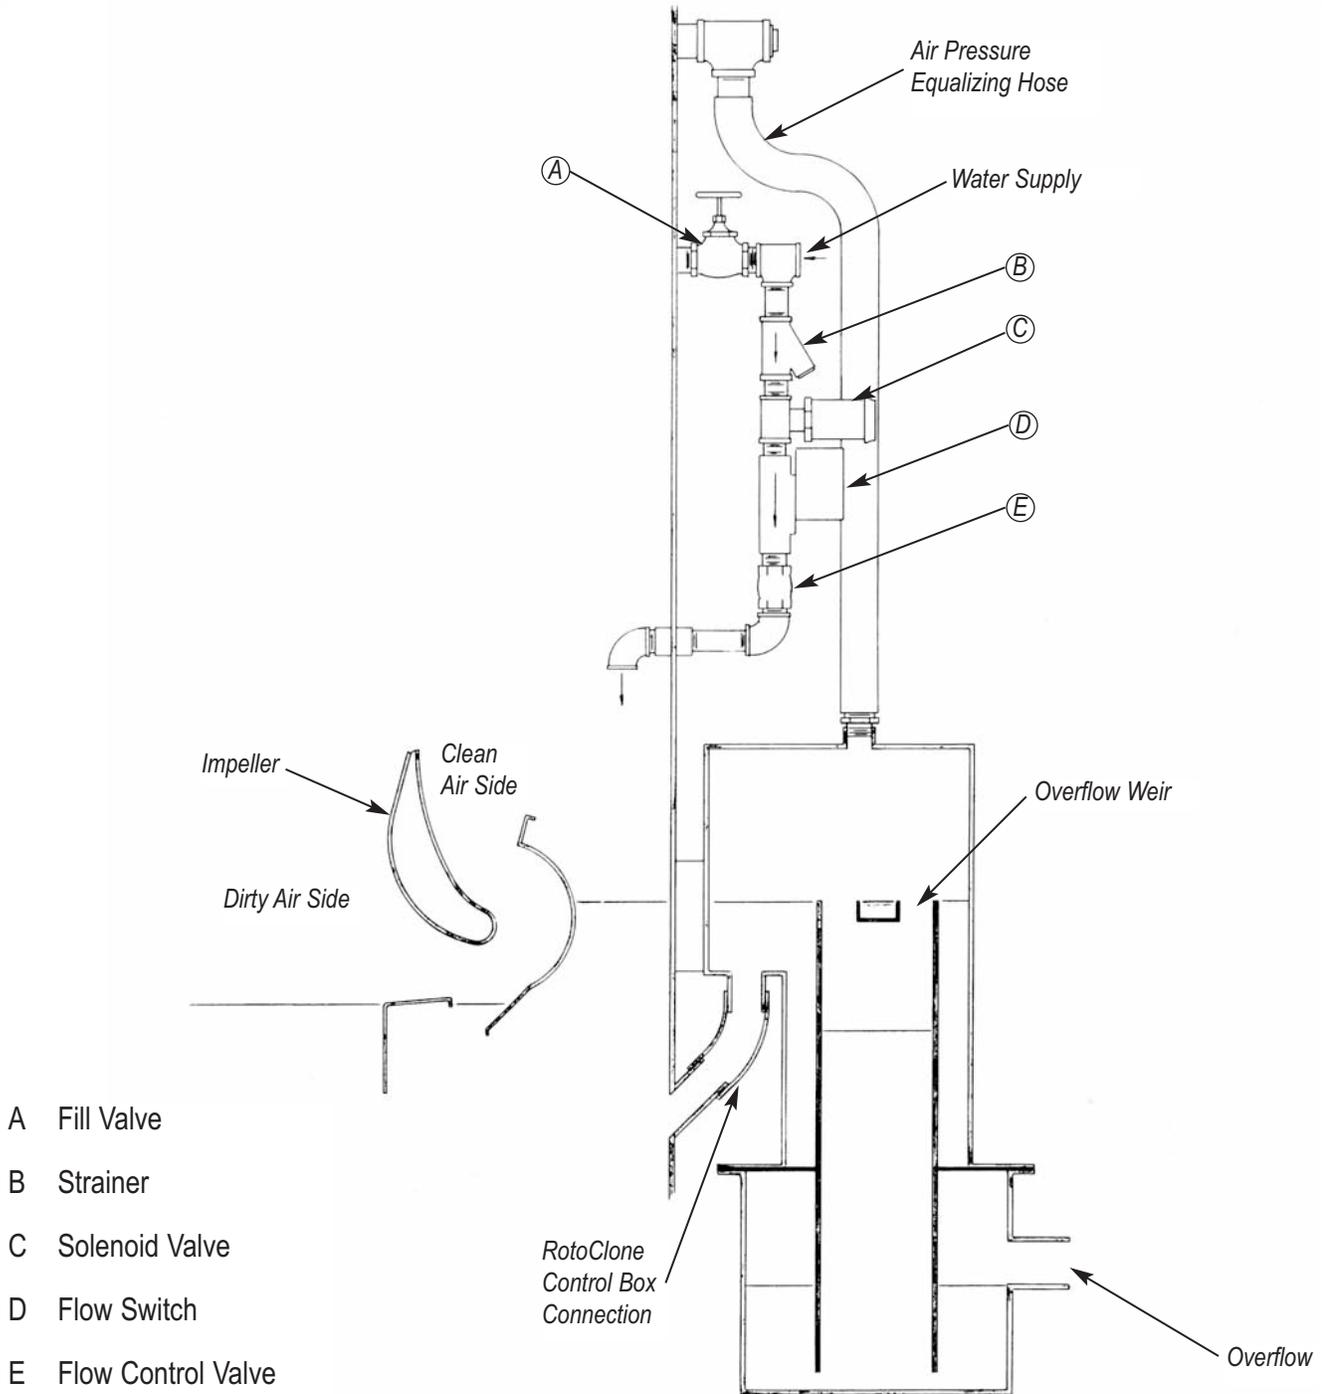

Figure 6. Control Schematic, Model "SV-HV" Water Level (Type N RotoClone, Model B).
1. Model "SV-HV" Control – This is the standard water level control for the Type N RotoClone Arrangement D (Figure 6). It prevents operation of the RotoClone when there is insufficient water flow. It also allows a continuous water flow over the running level weir, down the drain pipe, and into the overflow. The water supply system contains a fill valve, solenoid valve, strainer, flow switch and flow control valve. As long as the solenoid valve remains open, there will be a constant water flow into the control box.
- b. Open portlight each week while RotoClone is stopped and remove any accumulations in the box, check air equalizing port for pluggage, check running level weir, electrode (if supplied), and drain pipe for build-up and wear (Figures 6 or 7). Clean cover glass and secure portlight, carefully tightening hold-downs.